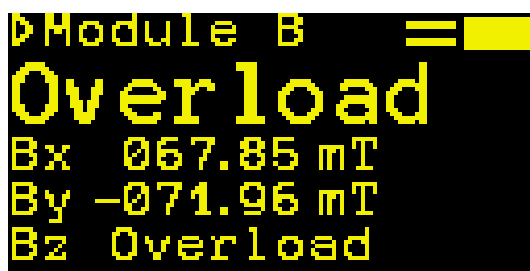

Figure 2.1. An example showing one of the vector components that exceeds the measurement limit of the instrument
2.2.6 During measurements, it may happen that one of the orthogonal  $B_x$ ,  $B_y$  or  $B_z$  components of the magnetic induction vector exceeds the established measurement limit of 4 or 8 mT (Type 1 probe) or 150 mT (Type 2 probe), assuming its magnitude does not exceed the established limits (10 mT for Type 1 probe, 260 mT for Type 2 probe). In this case, «Перепрыжка» [Overload] message will appear on the display (see Figure 2.1) instead of the numerical value of a corresponding component and the vector magnitude (since it has been calculated incorrectly). Try to find such a position of the probe relative to its X, Y, Z axes at which all three components of the magnetic induction vector do not exceed the measurement limits. If this could not be done and Type 1 probe is connected to the milliteslameter, replace it with Type 2 probe and, if necessary, try again to find the position of the probe relative to its X, Y, Z axes where all three components do not exceed the measurement limits. Should the operation with Type 2 probe also fail, it means that for any orientation of the probe in space at a point measured, at least one of the vector components exceeds 150 mT (although the magnetic induction magnitude may be below 260 mT).